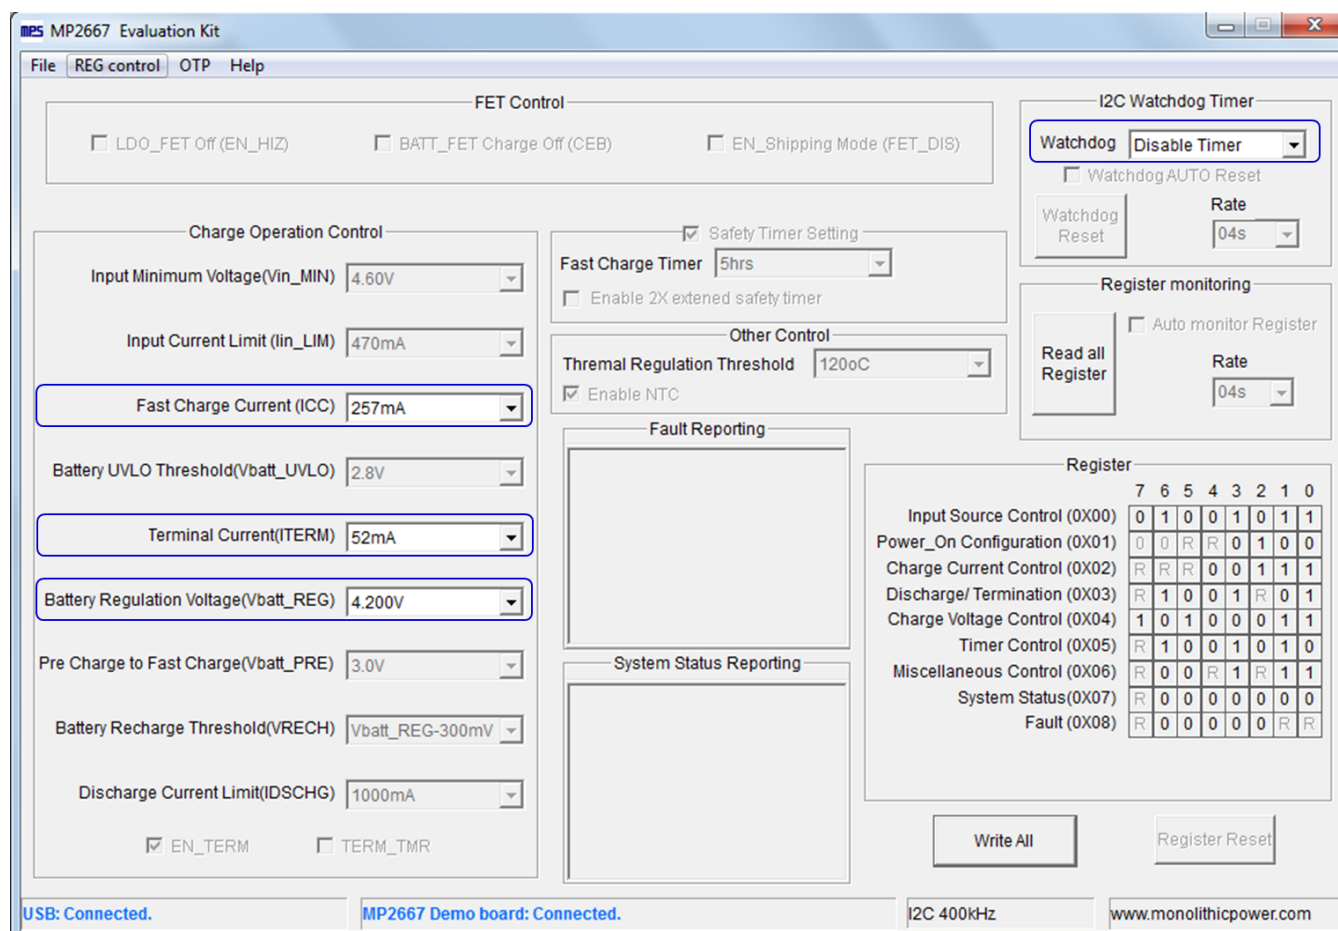

Figure 9: Adjustable Parameters in OTP Mode
4. Enter a new table (see Figure 9). All highlighted parameters can be changed.